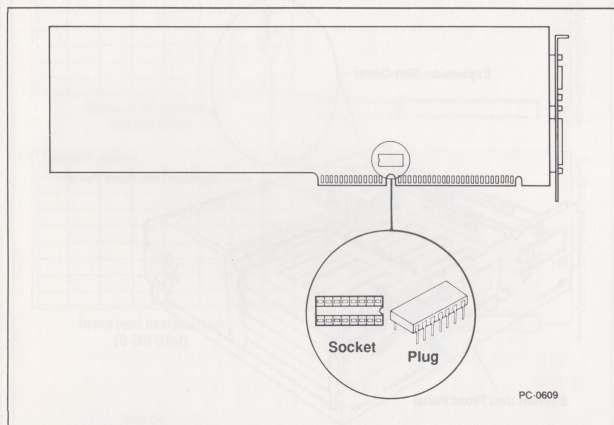

Figure 6-4 Location of the PC selection plug socket on the Above™ Board
Be sure the socket shown in Figure 6-4 is empty. This socket is for the PC selection plug, which should be inserted only in IBM PC, XT, and compatible computers and IBM Personal System/2 Model 30 computers. The PC selection plug is not installed at the factory, so the socket should be empty. If the socket isn't empty, remove the plug. (Do not remove the socket.)
- 4 Insert the PC selection plug in the socket on the Above Board. (Refer to Figure 6-4 for the location of the socket.) The PC selection plug allows you to use the Above Board in an IBM PC, XT, or compatible computer.
- 7 If you're installing the Above Board in a Model 30, you must insert the PC selection plug. Lay the Above Board on a clean, dry surface and insert the PC selection plug in the socket near the bottom edge of the Above Board. Refer to Figure 6-4 for the location of the PC selection socket.